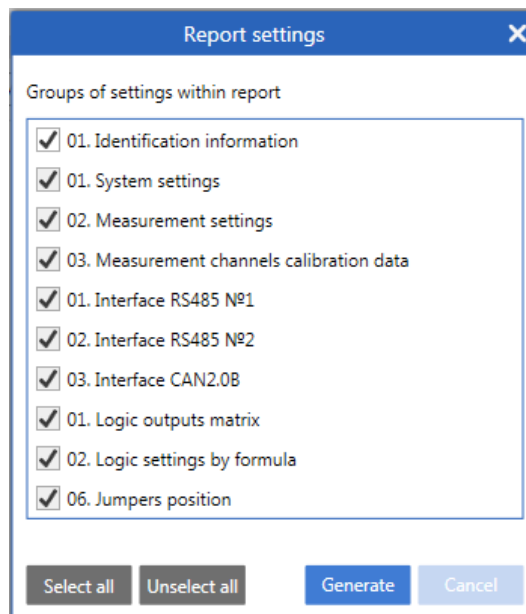

Figure 26 - Selecting parameter groups for report window
3) in parameter groups window select necessary groups and press **Generate** button (Ref. Figure 26);